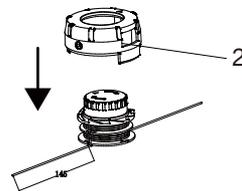

Fig. 12
2. While pressing both spool locking buttons, pull the spool cap (2) out of the spool housing (Fig. 12).